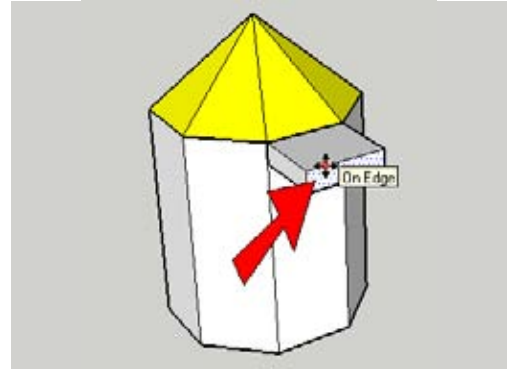

Figure 5-79
6. Select the front face of this rectangle, indicated in Figure 5-79. Activate Move and click any point along the top edge of this face.